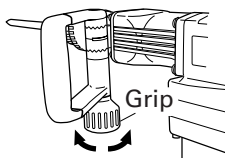

Fig. 6
- (1) Loosen the handle by turning the grip in the direction of Ⓐ as shown in Fig. 6.